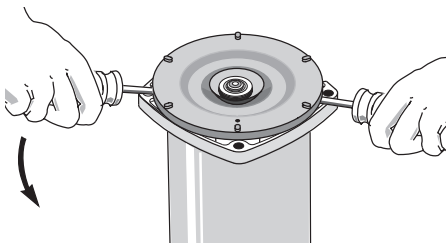

Figure 19 – Pry Off Seal Plate
3. Remove rotating half of seal by placing two screwdrivers under seal plate and carefully prying up (Figure 19). Seal plate will slide off shaft, bringing seal with it.